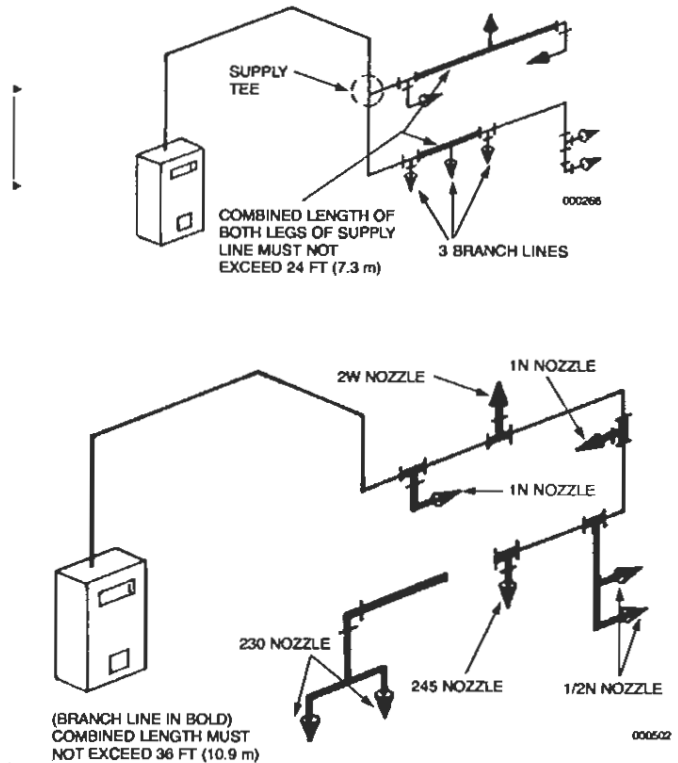

FIGURE 113
1. The maximum length between the start of the first branch line and the start of the last branch line must not exceed 24 ft (7.3 m). When the supply line is split, the **combined total** of both legs of the supply line (from the start of the first branch line to the start of the last branch line) must not exceed 24 ft (7.3 m). See Figure 113.
2. The total length of all branch lines must not exceed 36 ft (10.9 m). See Figure 113.
1. The maximum length between the start of the first branch line and the start of the last branch line must not exceed 24 ft (7.3 m). When the supply line is split, the combined total of both legs of the supply line (from the start of the first branch line to the start of the last branch line) must not exceed 24 ft (7.3 m). See Figure 113.